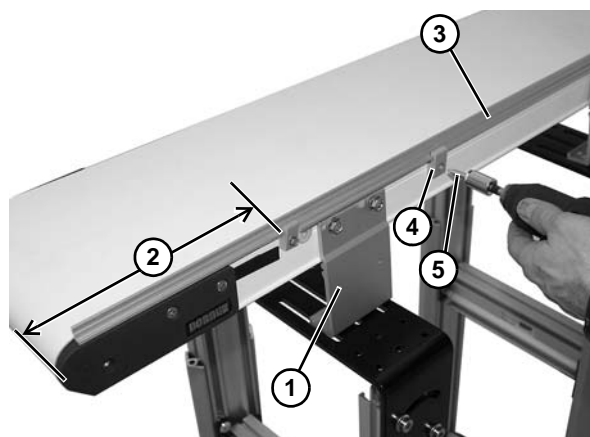

Figure 22
1. Lay out retaining clip (**Figure 22, item 1**) locations. The end clips should be no greater than 12" (**Figure 22, item 2**) from end of the conveyor.
2. Hold guide (**Figure 22, item 3**) and retaining clips (**Figure 22, item 4**) to conveyor side rail. Install self-drilling screws (**Figure 22, item 5**) following the "Proper Methods of Attachment to Side Rails (2300 Series Only)" on page 16 procedure.